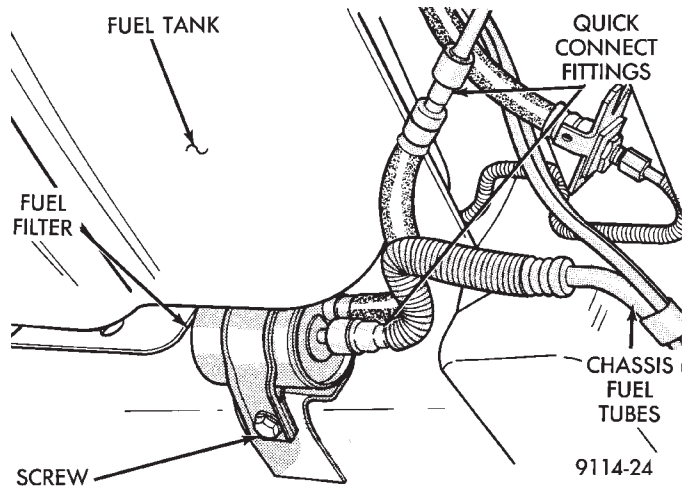

Fig. 11 Fuel Filter
- (1) Perform the Fuel System Pressure Release procedure.
- (2) Remove the fuel filter retaining screw (Fig. 11). Remove fuel filter from mounting plate.
- (3) Wrap a shop towel around hoses to absorb fuel. Remove quick-connect fittings at filter and fuel supply tube. Refer to Quick-Connect Fittings in this section.